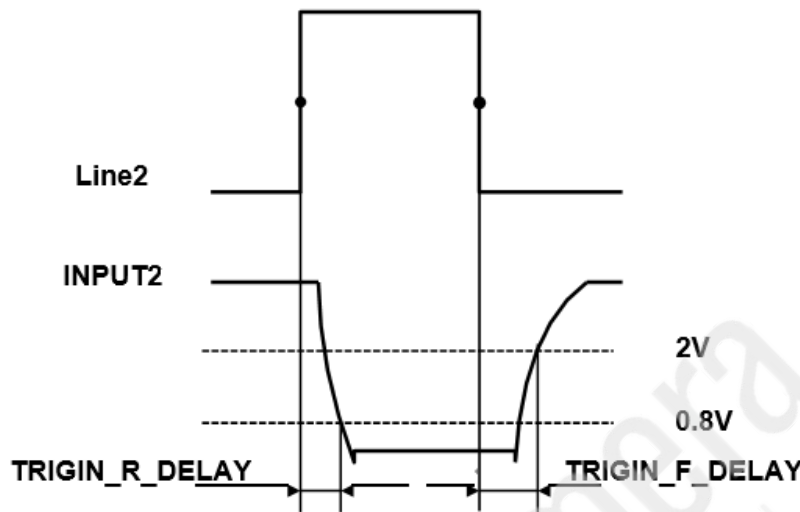

Figure 7-11 Parameter of Line2 input circuit (GigE)
- Input rising time delay: $<2\mu\text{s}$ ($0^{\circ}\text{C}\sim 45^{\circ}\text{C}$), parameter description as shown in Figure 7-11.
- Input falling time delay: $<2\mu\text{s}$ ($0^{\circ}\text{C}\sim 45^{\circ}\text{C}$), parameter description as shown in Figure 7-11.